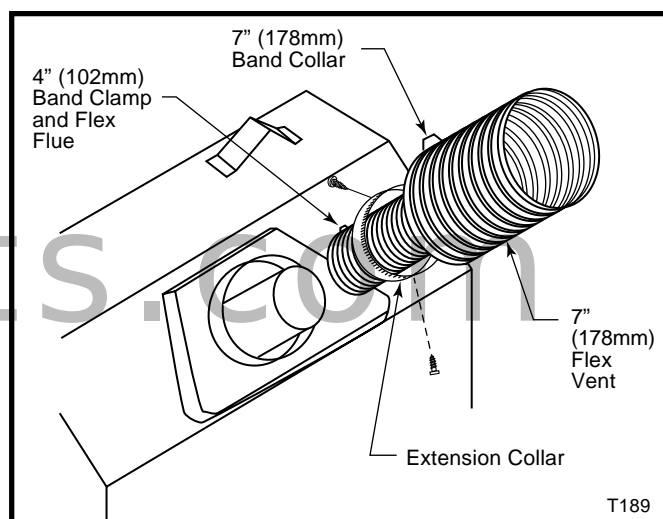

Fig. 22 Insert collar into flex pipe and secure with band clamp.
An extension collar is included with side wall cap kits to simplify the connection of the flex pipe to the fireplace. Refer to Page 13, Figure 22.
6. Connect corrugated side of the extension collar (7" dia.) into the 7" dia. flex pipe. (Fig. 22) Place a small bead of sealant around the collar approximately 1/4" from the leading edge of the corrugation. Insert the collar firmly into the flex pipe and secure with the provided (7" dia.) band clamp.
8. To finish connections, place a small bead of sealant to the outside of the fireplace inlet flange. Then, slide the extension collar over the inlet flange and secure with the three (3) screws provided.